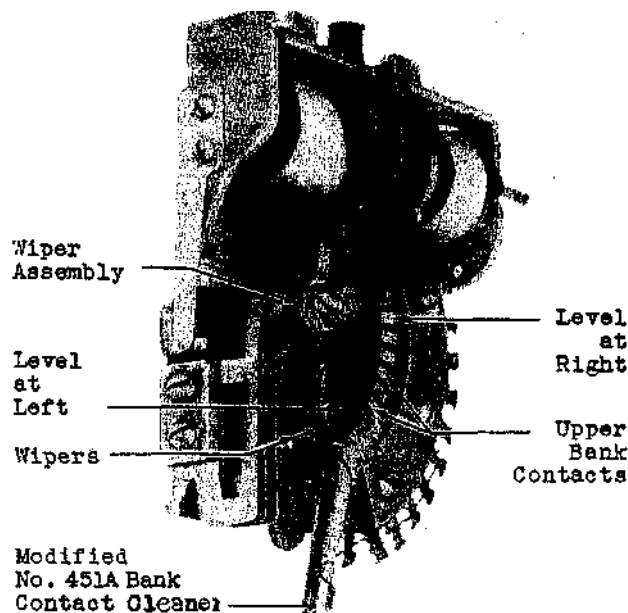

Fig. 3 - Method of Cleaning and Treating Bank Contacts
5.02 To treat the upper bank contacts in the level at the right, hold the modified No. 451A bank contact cleaner so that the finger of the tool is above the handle and projects toward the right. Insert the tool from the side further from the magnets and place the finger of the tool as shown in Fig. 3 firmly (with a pressure of approximately one pound) against the tenth bank contact. Take three complete strokes across the width of the contact and proceed to the next contact. Treat all the upper bank contacts in the level at the right in the same manner progressing from the tenth to the first bank contact. Then while exercising a light pressure on the bank contact cleaner, draw it with a single stroke, across the row of contacts. This will tend to remove any lint that may have been deposited in the treating operation.